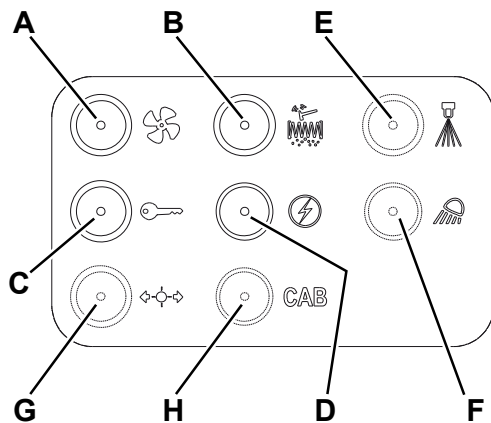

Figure 10
3. Turn the ignition key (66) to "O" and remove it.
4. On the panel (38), check for deactivation of one of the following fuses (Fig. 10):
- (A): F1 (5 A), dust vacuuming
- (B): F2 (16 A), filter shaker
- (C): F4 (30 A), ignition key
- (D): F5 (16 A), engine accessories
- (E): F3 (10 A), dust guard system (if equipped)
- (F): F6 (10 A), working lights (optional)
- (G): F7, light system (optional)
- (H): F8, cab blower (optional)